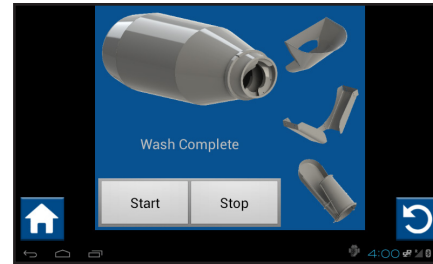

Figure 118
6. When the wash down cycles have completed, a “Wash Complete” message will display on the screen (Figure 118).